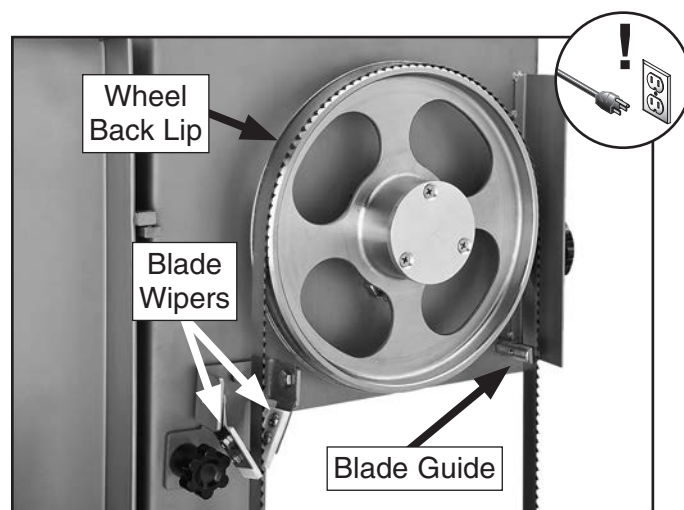

Figure 3. Top wheel blade.
3. Make sure of the following blade conditions (see **Figures 3–4** for identification):